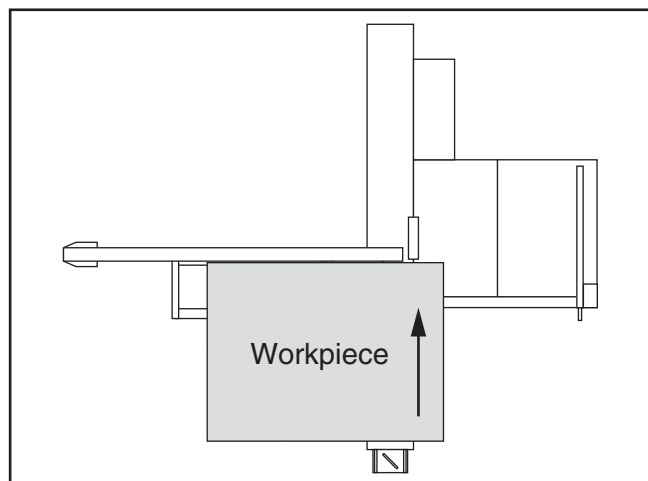

Figure 109. Crosscut with fence mounted in front position.
The Model G0820 can crosscut full-size panels with the fence in the front or rear position, although it is easier to load full-size panels with the crosscut fence mounted in the front position (see **Figure 109**).
5. Load workpiece onto table saw in front mounting location shown in **Figure 109**.